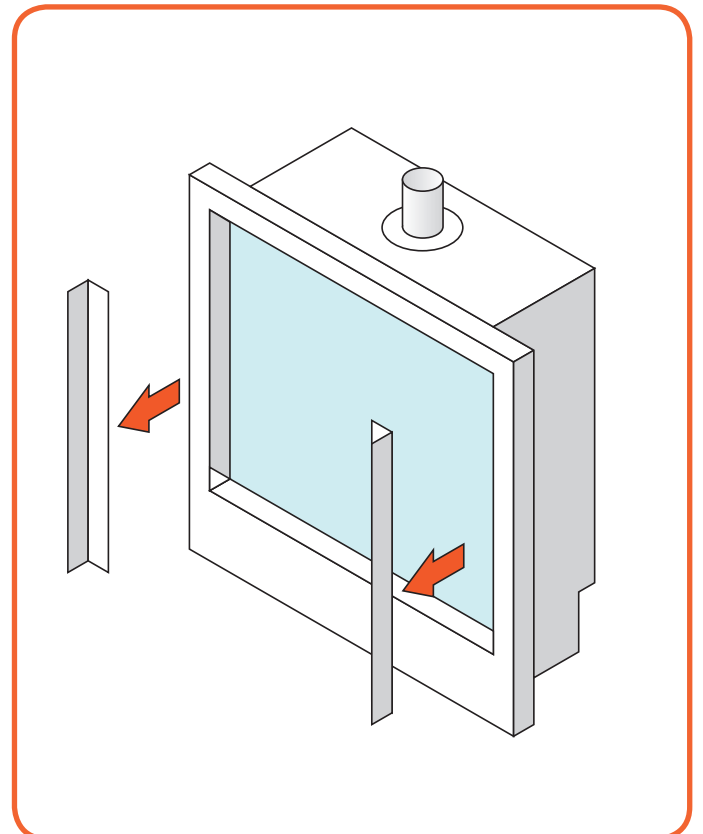

Figure 10.2 - Remove Side trims
- Remove both the side trims. They overlap the window frame. (*Figure 10.2 & 10.3*)